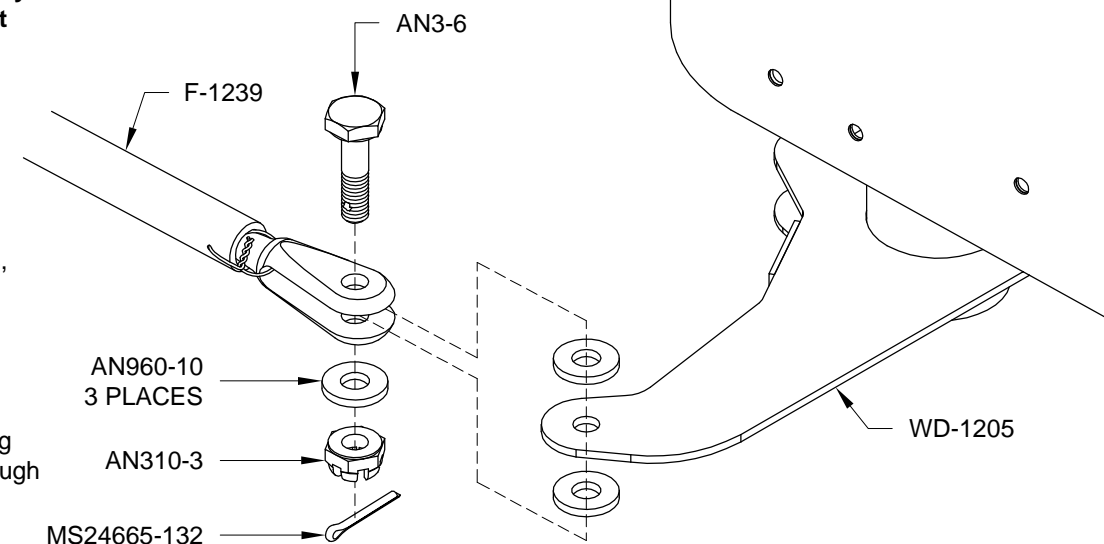

FIGURE 3: SECURING THE RUDDER CABLES TO THE RUDDER HORN
Step 6: Remove the marked F-1258 Rudder Cable Links from the F-1239 Rudder Cables, then secure the rudder cables to the WD-1205 Rudder Horn using the hardware called out in Figure 3.